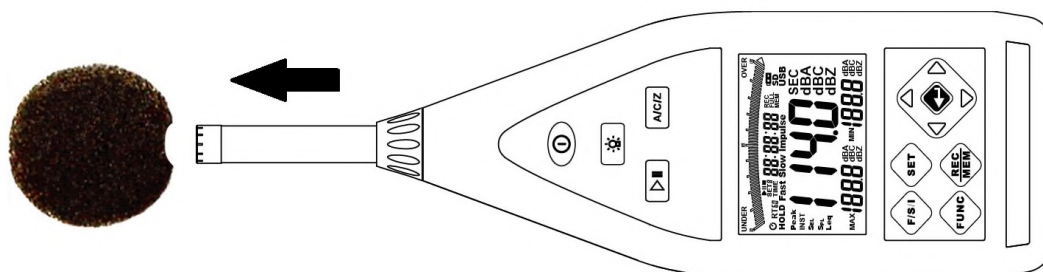

Fig. 1
- Wind blowing across the microphone would bring additional extraneous noise. Once using the instrument in the presence of wind, it must mount the windscreen to prevent the undesirable signals. (Refer to EN-7. Fig.1)